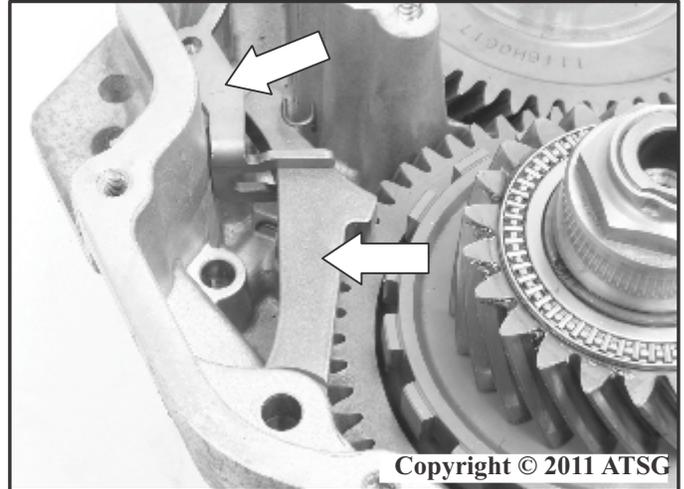

Figure 233
54. Install the parking pawl actuating bracket and the parking pawl lever as shown in Figure 233.